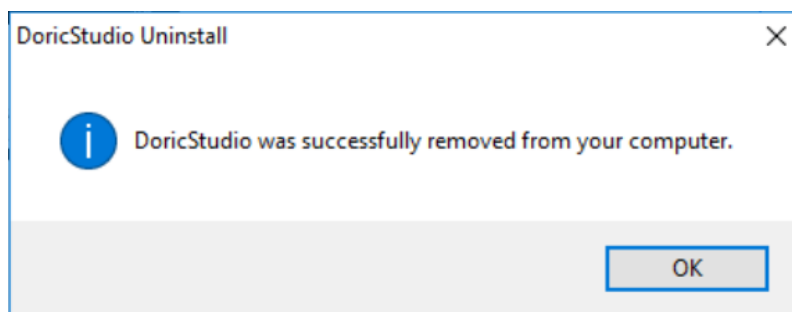

Figure 2.11: Uninstall Completion
6. When the previous version is uninstalled, the following (Fig. 2.11) will appear. **Click Ok**, and the installation of the new version of the software should start, as shown in section 2.2.